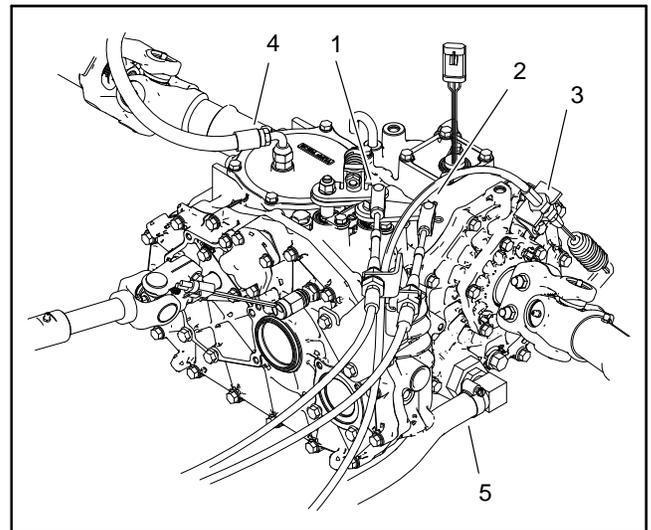

Figure 13
6. Label shift cables to ease reassembly. Loosen shift cable jam nuts at cable mount (Fig. 13). Remove cotter pin and clevis pin that attach shift cable ends to transaxle shift arm levers. Pull shift cables free from mount.
7. Loosen differential lock cable jam nuts at cable mount (Fig. 13). Pull cable free from mount and disconnect cable end (spring) from differential lock lever.
8. Disconnect hydraulic return hose from top of transaxle (Fig. 13). Locate, remove and discard hose O-ring.
9. Disconnect suction hose from transaxle (Fig. 13). Locate, remove and discard suction hose O-ring. Position suction hose away from transaxle.
11. Remove two (2) cap screws and lock nuts from transaxle end of transaxle driveshaft assembly. Slide the driveshaft off of the transaxle input shaft.
13. Remove the two (2) flange head screws that secure the rear brake caliper to the hub support. Slide the caliper from the brake rotor.